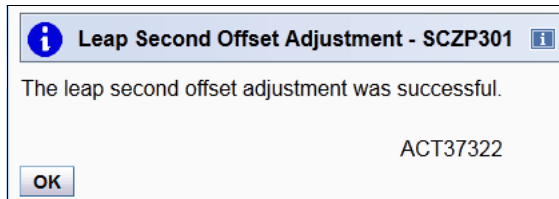

Figure 6-42 Leap Second Offset Adjustment successful message
3. Click **OK**. If successful, the completion message ACT37322 displays (Figure 6-42).